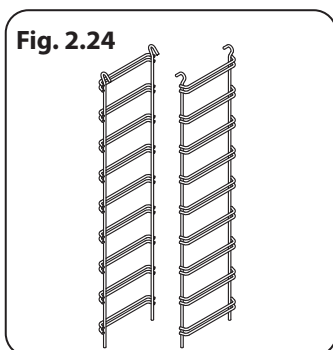

Fig. 2.24
- 1 set of side supports (**Fig. 2.24**)